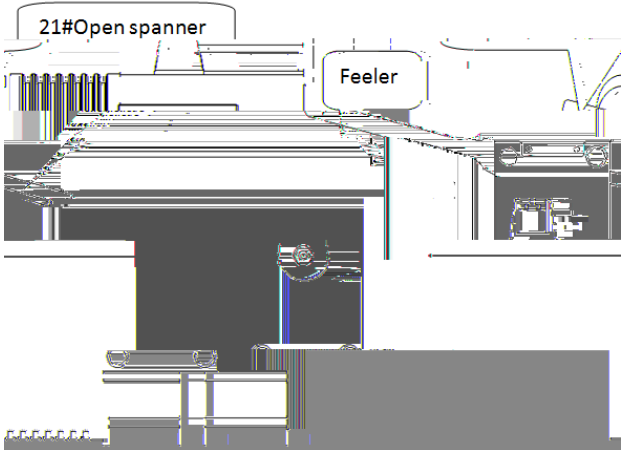

Fig. 1.4
- b) Rotate 4 guide screws counterclockwise with the 21 open spanner and test the air gap of brake while adjusting until the air gap of brake is between 0.3~0.55mm. Refer to fig.1.4.